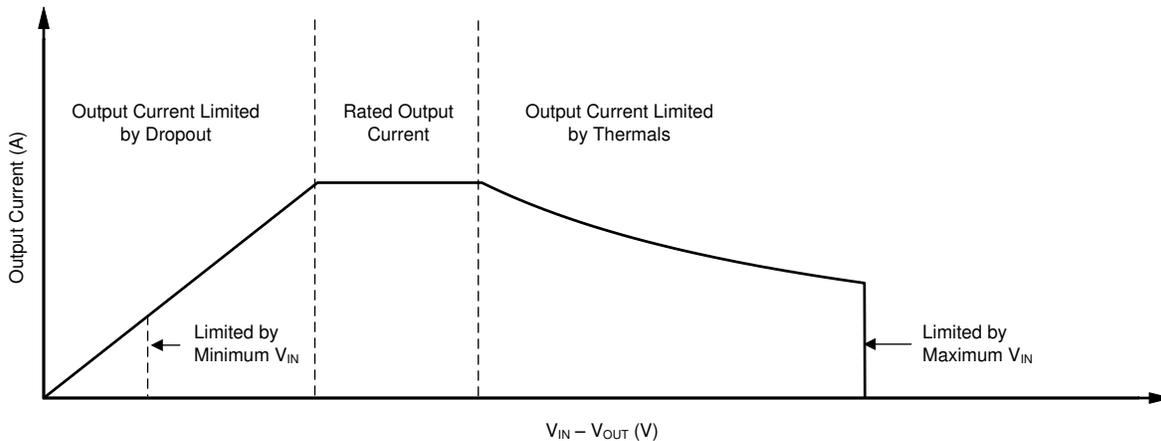

Figure 7-3. Continuous Operation Diagram With Description of Regions
The operational area of an LDO is limited by the dropout voltage, output current, junction temperature, and input voltage. The recommended area for continuous operation for a linear regulator is illustrated in Figure 7-3 and can be separated into the following regions:
- Figure 7-3 provides the shape of the slope. The slope is nonlinear because the maximum rated junction temperature of the LDO is controlled by the power dissipation across the LDO; thus, when $V_{IN} - V_{OUT}$ increases the output current must decrease.